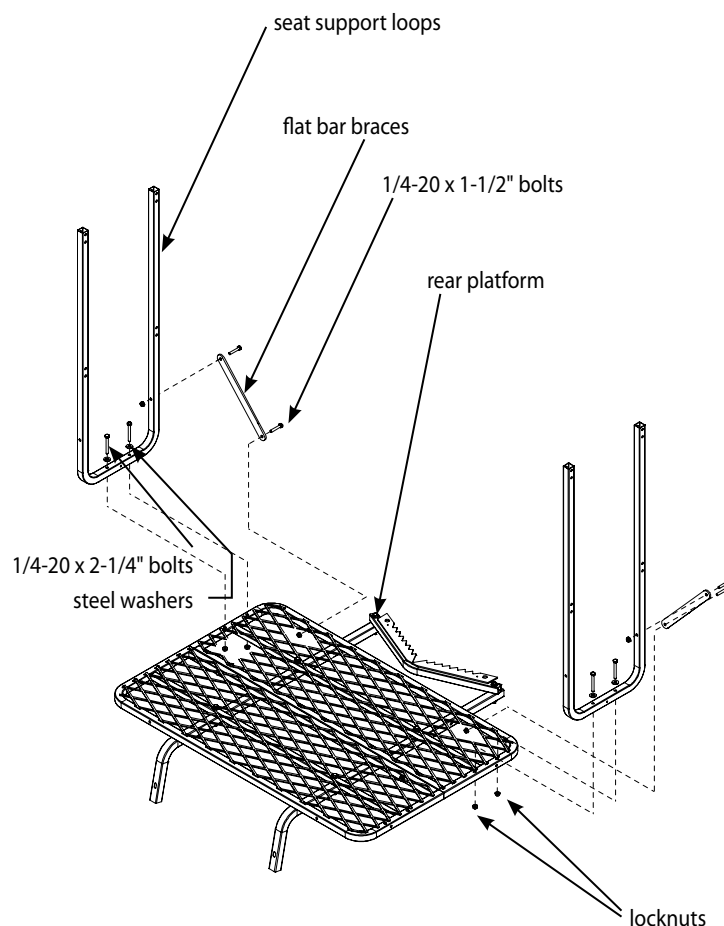

Figure 3
4. Attach the (2) side seat support loops (2ML93) to the rear platform using (4) provided 1/4-20 x 2-1/4" bolts, locknuts, and steel washers. **SEE FIGURE 3.**
5. Attach the (2) flat bar braces (LL9A) to the back side of side seat support loops and to the outside of rear platform using (4) provided 1/4-20 x 1-1/2" bolts and locknuts. **SEE FIGURE 3.**